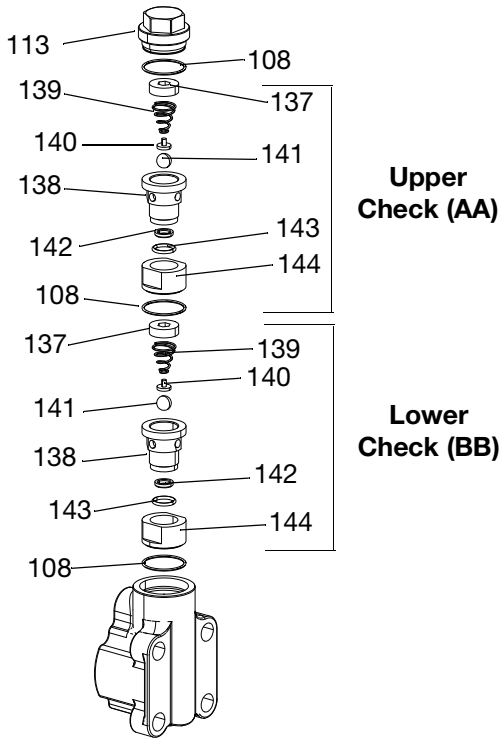

FIG. 7
4. Remove upper check assembly (AA), including the spring retainer (137), check housing (138), conical spring (139), ball housing retainer (140), ball (141), carbide seat (142), O-ring (143), and retainer (144).
5. Remove lower check (BB), including the spring retainer (137), check housing (138), conical spring (139), ball housing retainer (140), ball (141), carbide seat (142), O-ring (143), and retainer (144). See FIG. 7 on page 11.